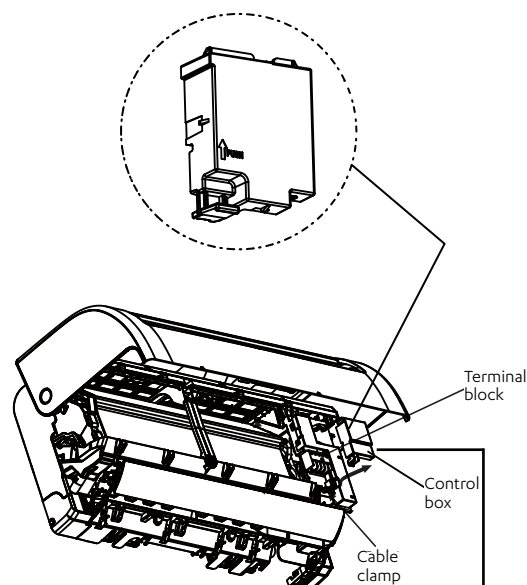

Fig. 8.2
2. Open front panel of the indoor unit. Loosen the screws according to figure 8.2.